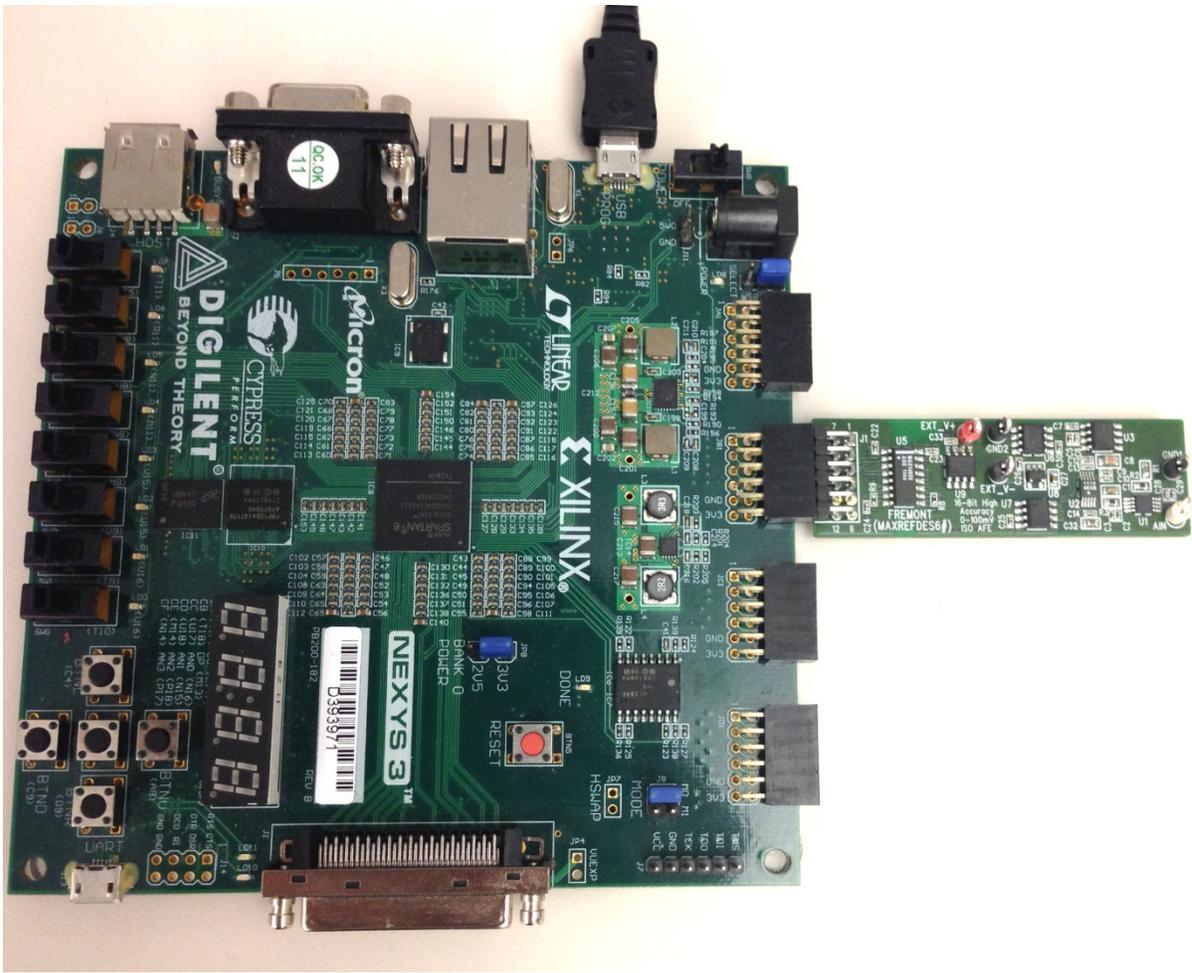
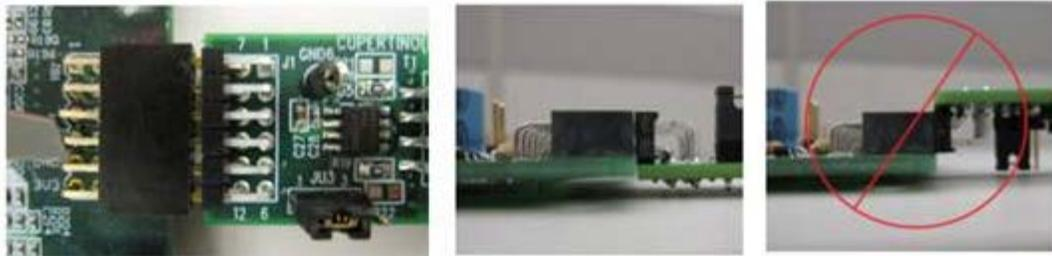

Figure 1. Fremont Board Connected to Nexys 3 Development Kit
Figure 2. Pmod™ Connector Alignment
1. Connect the Fremont board to the JB1 port of a Nexys 3 development kit as shown in Figure 1. Ensure the connector is aligned as shown in Figure 2.
1. Connect the Fremont board to the JB1 port of a Nexys 3 development kit as shown in Figure 1. Power up the Nexys 3 development kit.